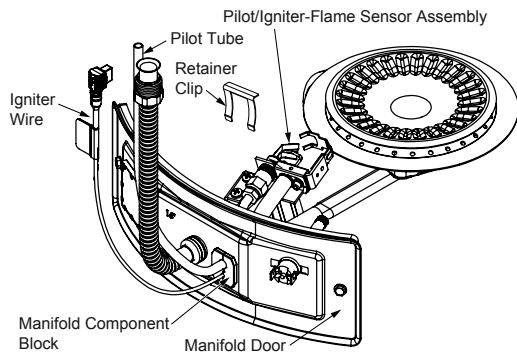

FIGURE 37.
2. Lift the retainer clip straight up from the back of the manifold component block (using a flat-blade screwdriver), then remove the manifold component block from the manifold door (Figure 37).
4. Pull the pilot tube from the pilot assembly (Figure 37). **IMPORTANT:** Be careful not to bend or alter the position of the pilot assembly components.
7. Push the new pilot tube and igniter wire through the hole in the manifold door (See Figure 37). Reconnect the pilot tube and tighten the nut securing it to the pilot assembly. **IMPORTANT:** Keep the pilot orifice in the pilot when making the connection. DO NOT operate the water heater without the pilot orifice installed. Reattach the pilot assembly to the manifold.